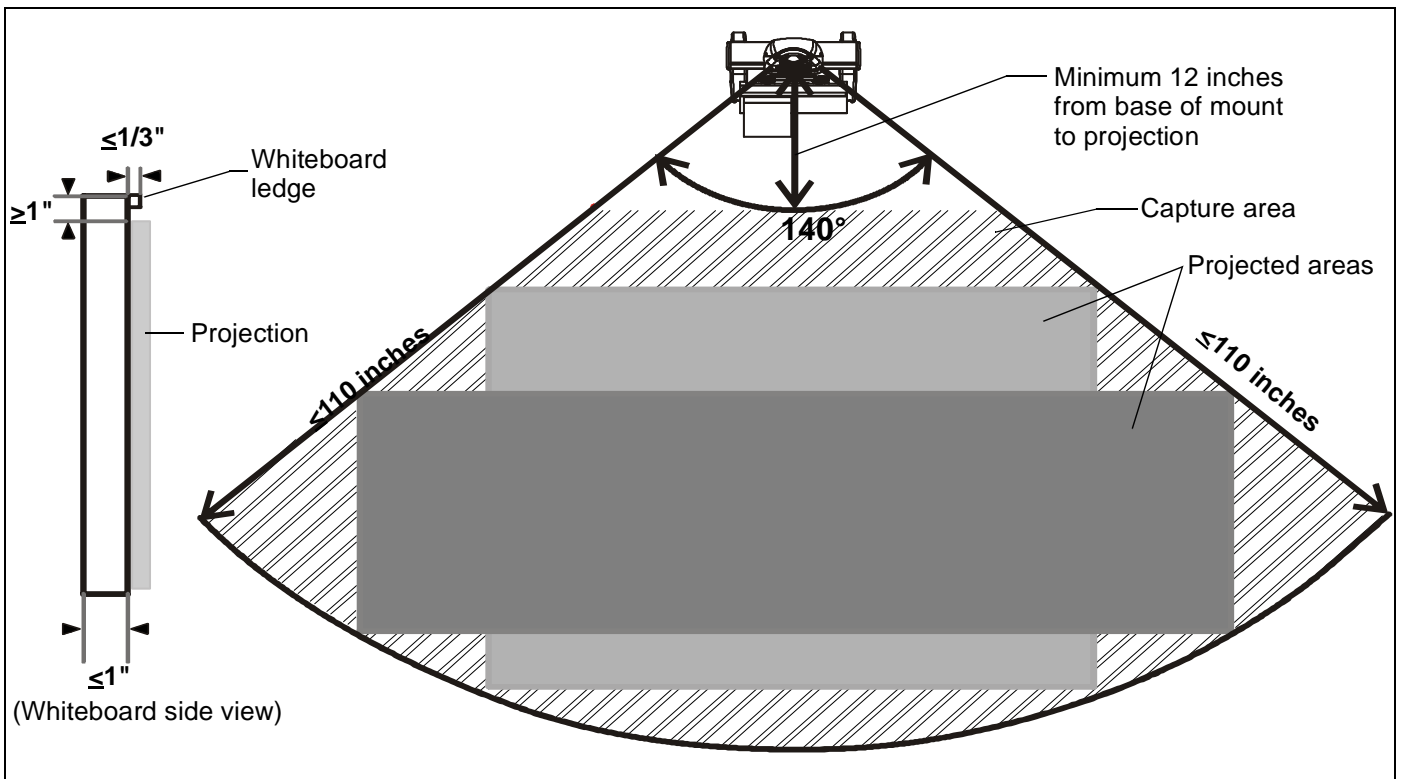

Figure 3
WM2XXSI Placement and Projection Area Constraints (See Figure 3)
- The whiteboard should not be thicker than 1". (See Figure 3)
- The ledge of the whiteboard frame should be less than or equal to 1/3". (See Figure 3)
- Do not put sticky notes, hanging paper, cables, outlets, or other items below the wall mount or inside the capture area. (See Figure 3)